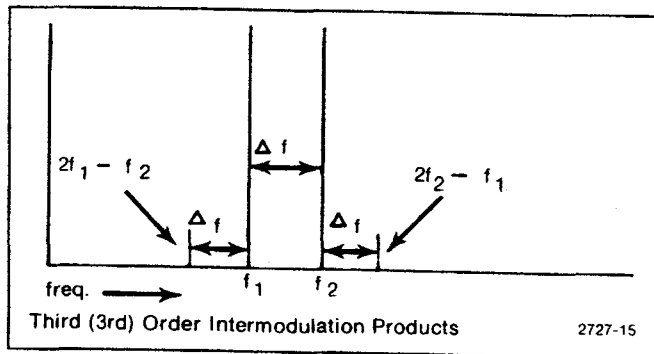

Figure 4-17. Intermodulation products.
d. Check that the third order IM products are at least 70 dB down from the input signal level. See Figure 4-17.